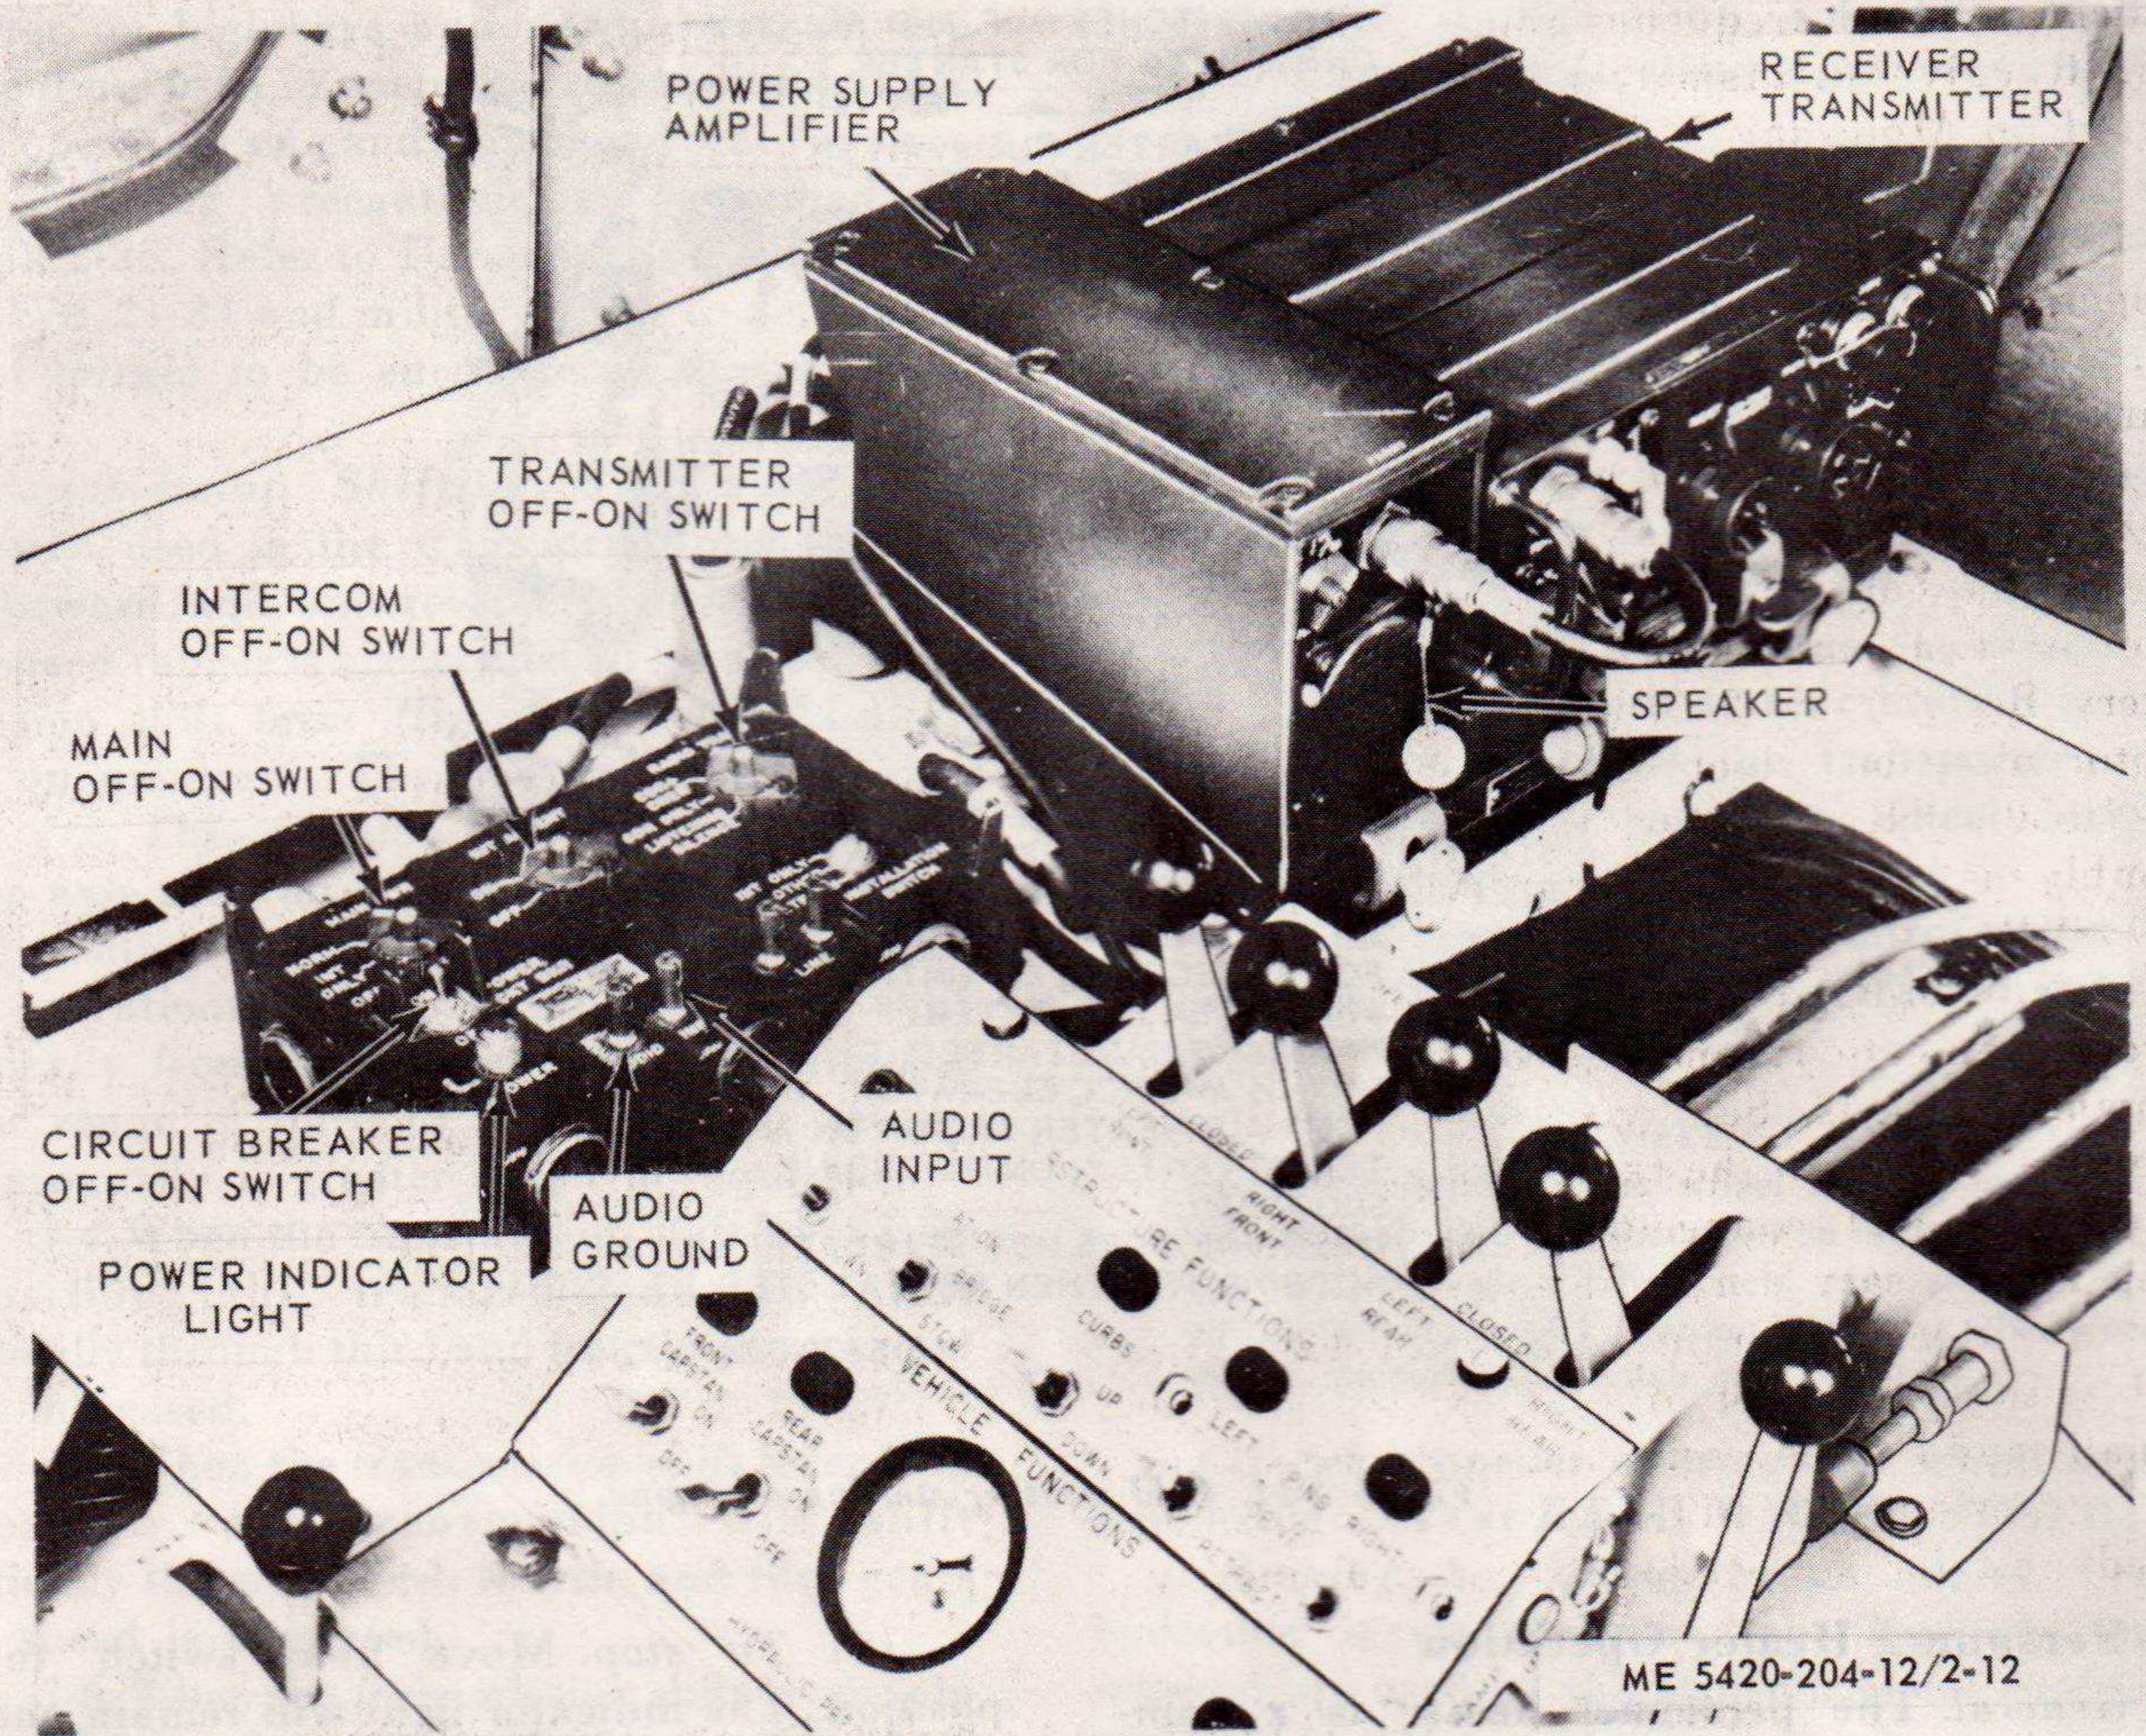

Figure 2-12. Communications equipment installed.
a. Description, location, cording diagrams. Installation and removal procedures for the communications equipment installed in the transporter (fig. 2-12).